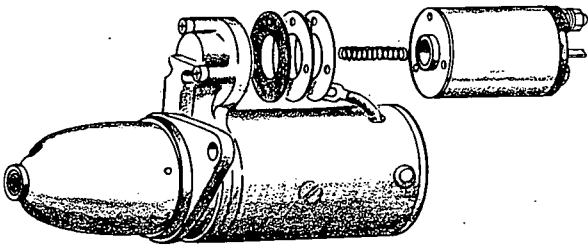

FIGURE 33. MAGNETIC SWITCH REMOVAL
1. Loosen the M terminal nut on the magnetic switch and remove the connector. Then unscrew attaching screws and remove the magnetic switch, Figure 33.